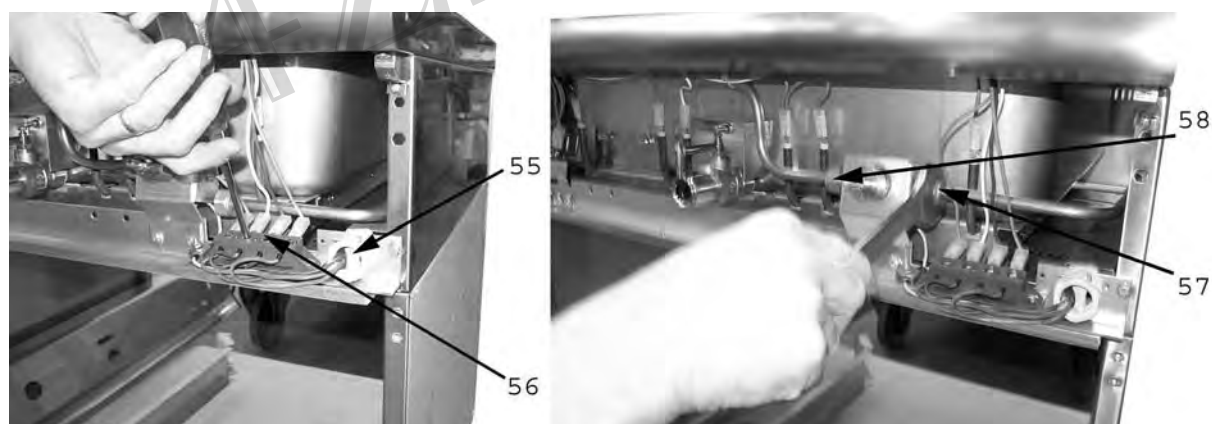

Fig. 18
- disconnect all electrical connections from the terminal block after loosening the power cord inserted into the cable gland (item 55 in Fig. 18);
- detach the water fill and distribution pipes, item 57 and item 58 in Fig. 18;